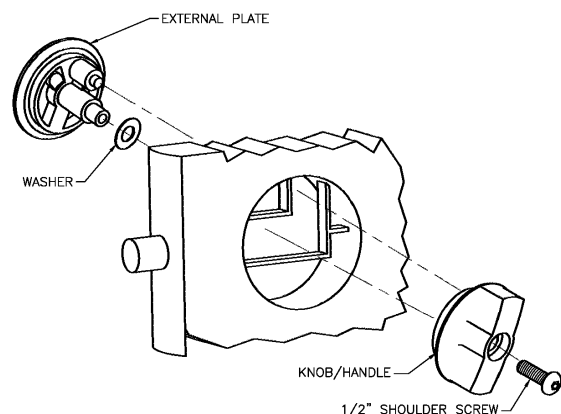

Figure 9B
- f. Mount external plate and knob. Remove clear plastic retainer holding spring washer in place on the post of the external plate. Insert the external plate into door as shown in Figure 9B, with the shorter post inserted into the upper pocket of the internal latch mechanism. Mount the knob/handle on the inside of the door and engage it with both the center post and the shorter, off-center post of the external plate. Insert  $\frac{1}{2}$ " shoulder screw with blue tip through the knob/handle and tighten until snug. Check for proper operation of knob and latch pin before final tightening.
- g. Locate strike/keeper on the latch-side pilaster so the latch pin engages with it when the door is closed. Drill ( $\frac{1}{4}$ " bit) mounting holes and secure strike/keeper to pilaster using thru bolt (1), with black rubber bumper facing out for outswing doors and in for inswing doors.
- Mount external plate and knob. Remove clear plastic retainer holding spring washer in place on the post of the external plate. Insert the external plate into door as shown in Figure 9b, with the shorter post inserted into the upper pocket of the internal latch mechanism. Mount the knob/handle on the inside of the door and engage it with both the center post and the shorter, off-center post of the external plate. Insert  $\frac{1}{2}$ " shoulder screw with blue tip through the knob/handle and tighten until snug. Check for proper operation of knob and latch pin before final tightening.
- Locate strike/keeper on the latch-side pilaster so the latch pin engages with it when the door is closed. Drill ( $\frac{1}{4}$ " bit) mounting holes and secure strike/keeper to pilaster using thru bolt (1), with black rubber bumper facing out for outswing doors and in for inswing doors.